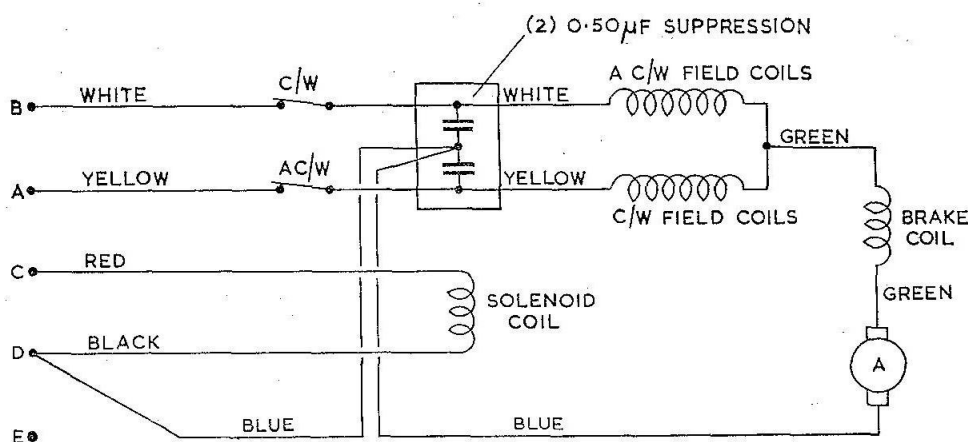

Fig. 2. Diagram of internal connections
3. The motor is a reversible, split series field machine, at the commutator end of which is mounted an electro-magnetic brake which is released when energized, the coil being connected in series with the motor (*fig. 2*).